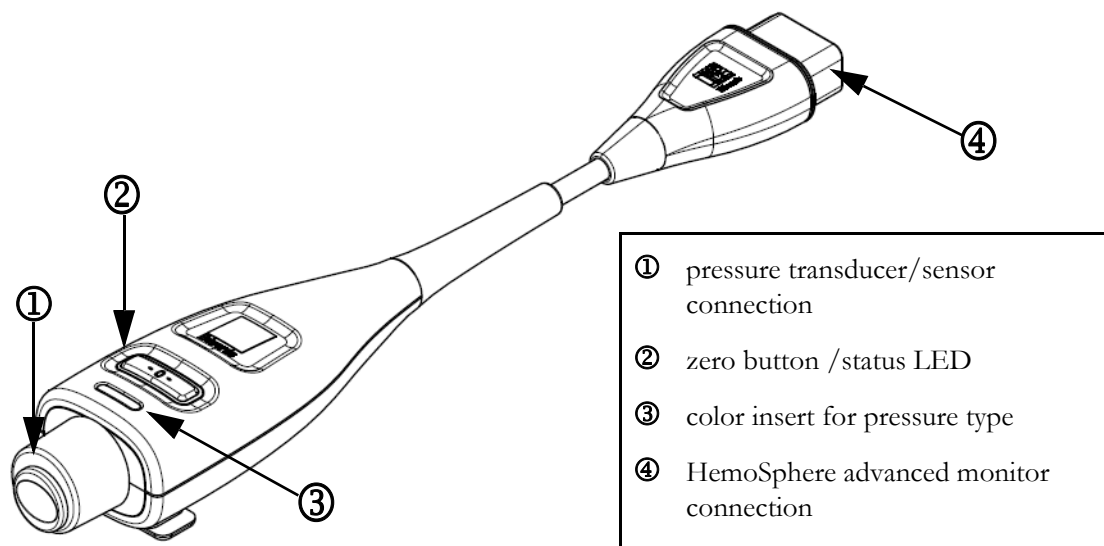

Figure 10-1 HemoSphere pressure cable
The HemoSphere pressure cable is a reusable device that connects with the HemoSphere monitor on one end ④ and any approved single Edwards disposable pressure transducer (DPT) or sensor on the other end ①. See figure 10-1 on page 135. The HemoSphere pressure cable acquires and processes a single pressure signal from a compatible DPT, such as the TruWave DPT, or a FloTrac sensor. A FloTrac or FloTrac IQ/Acumen IQ sensor connects to an existing arterial catheter to provide minimally invasive hemodynamic parameters. A TruWave transducer can connect to any compatible pressure monitoring catheter to provide location based intravascular pressure. Refer to the directions for use provided with each catheter for specific instructions on catheter placement and use, and for relevant warnings, cautions and notes. The HemoSphere pressure cable can be monitored through two technology monitoring modes based on the paired sensor/transducer: **FloTrac** or **FloTrac IQ/Acumen IQ** sensor monitoring mode or **Swan-Ganz** catheter monitoring mode. The monitoring mode appears on the information bar (see figure 5-19 on page 85). The appearance and connection points for the HemoSphere pressure cable are shown in figure 10-1.
Pressure Type Color Insert. If desired, the appropriate color insert can be used on the pressure cable to indicate the monitored pressure type. See ③ in figure 10-1 below. The colors are as follows:
- Red for arterial pressure (AP)
- Green for cardiac output (CO)
- 7 Use a straight in or out motion to connect the green connector of the primed FloTrac sensor. The pressure cable LED that surrounds the zero button (see ② in figure 10-1) will flash green indicating that the pressure sensor is detected. A yellow light indicates a fault condition. If this occurs refer to the status bar for specific fault condition details.
Press the physical zero button  directly on the pressure cable (see figure 10-1).